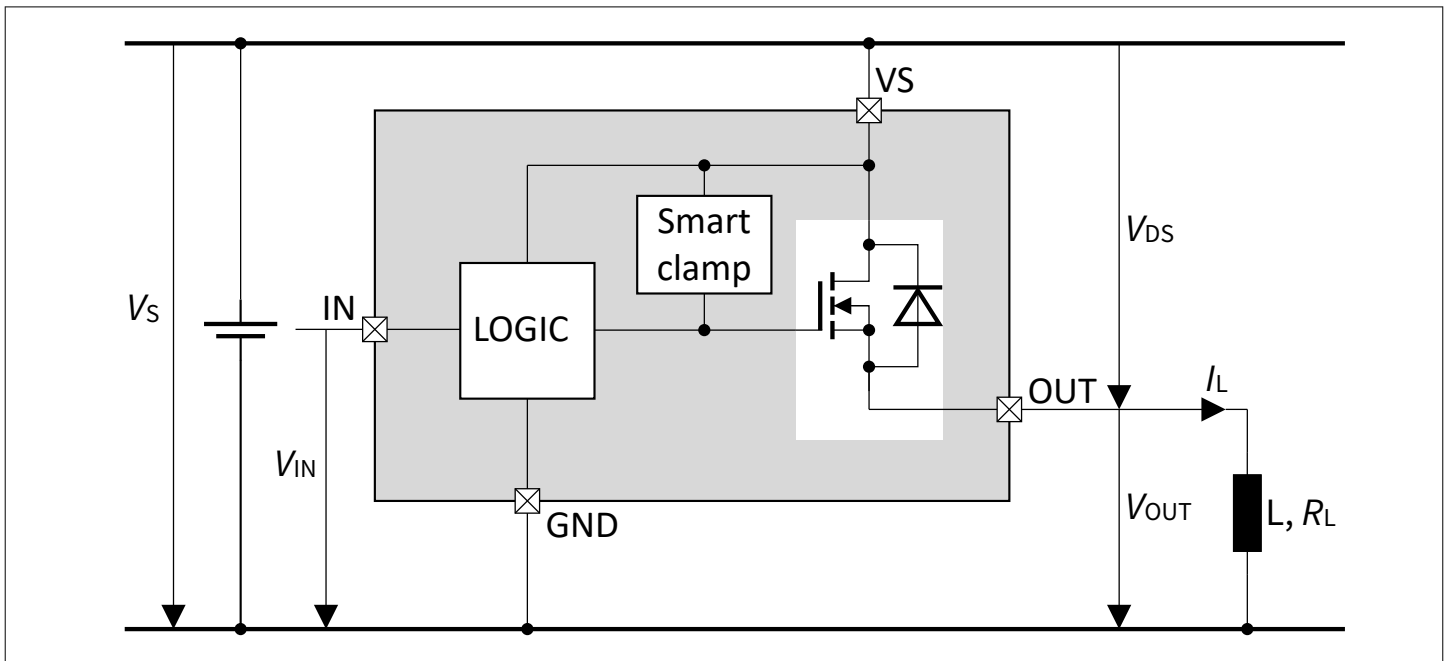
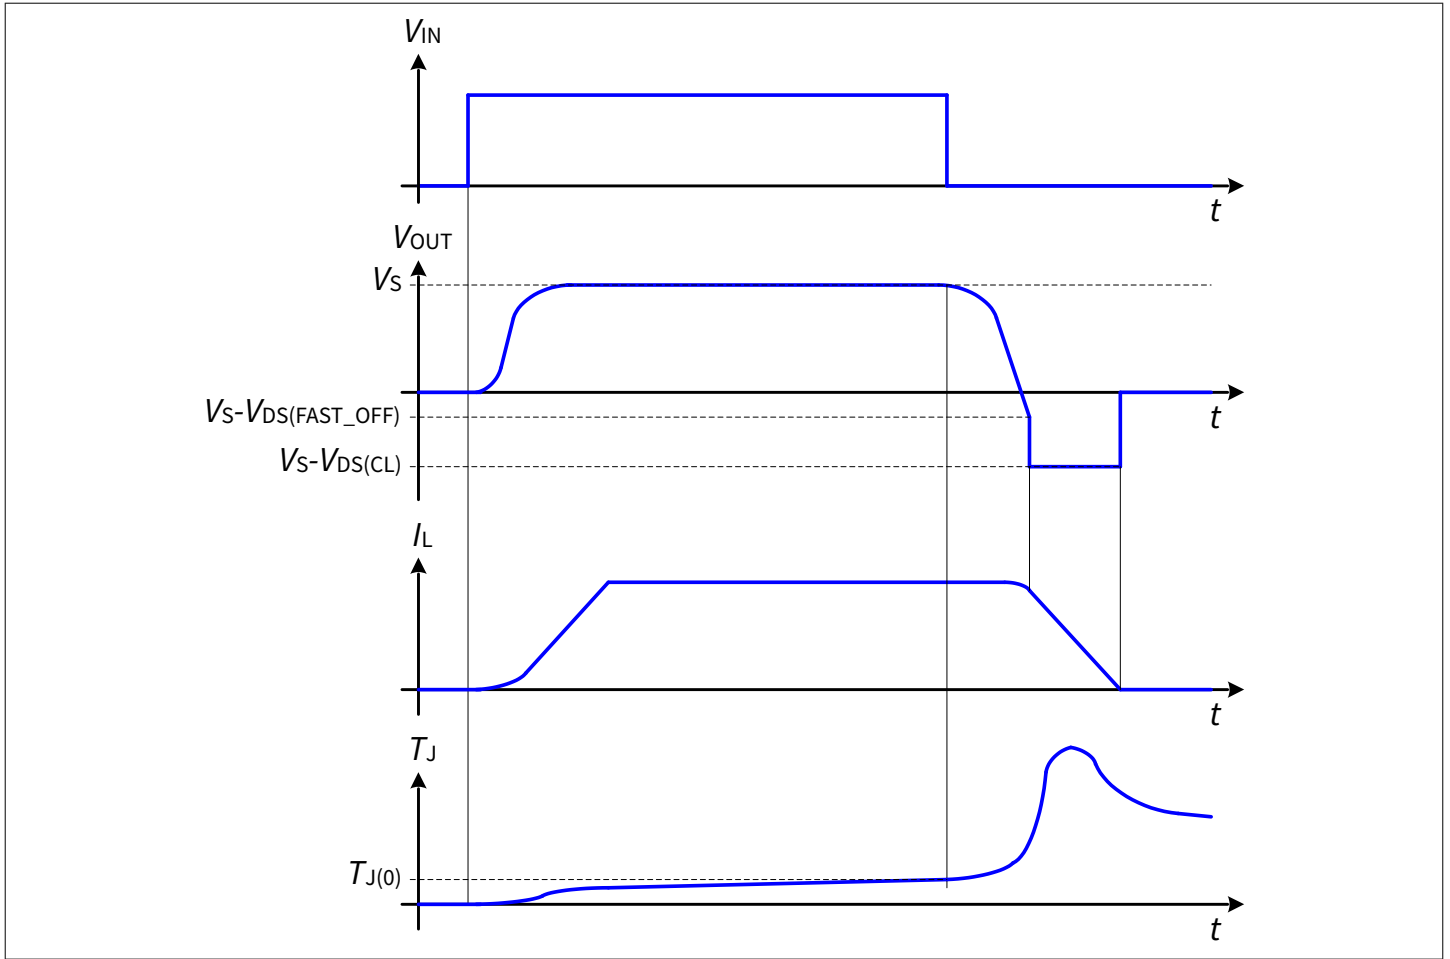

Figure 11 Output clamp
Figure 12 Switching an inductance
To prevent the destruction of the device due to high voltages, there is a smart clamping mechanism implemented that keeps negative output voltage to a certain level ($V_S - V_{DS(CL)}$). Please refer to Figure 11 and Figure 12 for details. Nevertheless, the maximum allowed load inductance remains limited.
The device features a fast switch off when driving an inductive load in order to increase the energy capability. The fast turn off is triggered when V_{DS} is higher than $V_{DS(FAST_OFF)}$. Please refer to Figure 12 for details.
- The device is turned off by applying $V_{IN(L)}$ at the IN pin. During the switch off operation the OUT pins' voltage in respect to VS pin drops below $V_{DS(FAST_OFF)}$. See Figure 12.